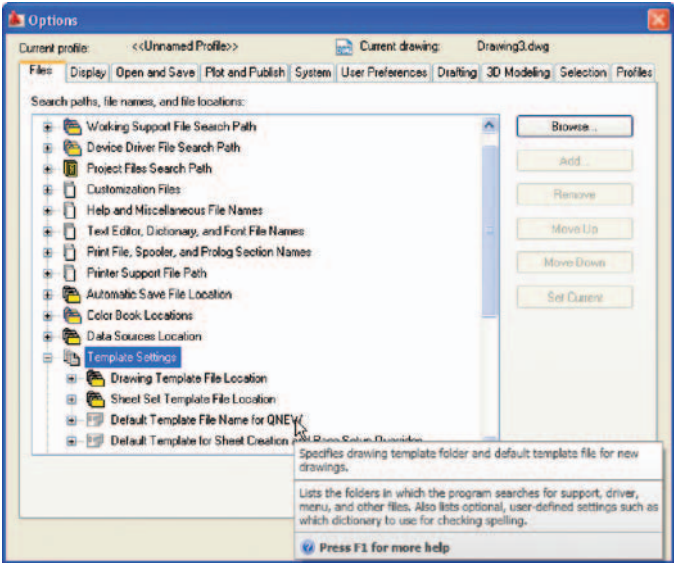

Fig. 15.4 Setting the default template setting in the Options dialog
7. In the **Options** dialog click the **Files** label and click **Default Template File Name** for QNEW (Fig. 15.4) followed by a click on the **Browse** button which brings up the **Select Template** dialog, from which the acadiso3d.dwt can be selected. Now when AutoCAD 2009 is opened from the desktop, the **acadiso3D.dwt** template will open.